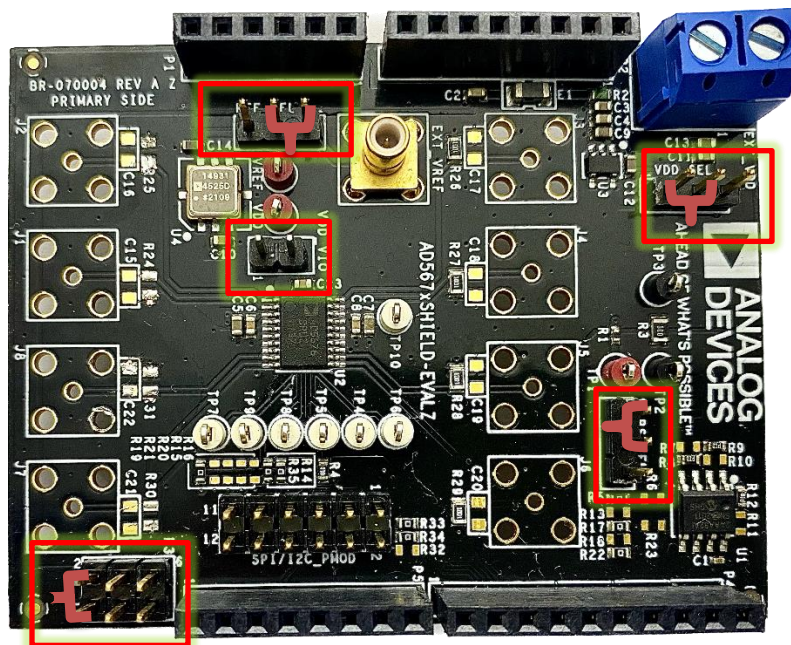

Figure 9 Link or Jumper Connections
- Set the link connections as shown in Figure 9: